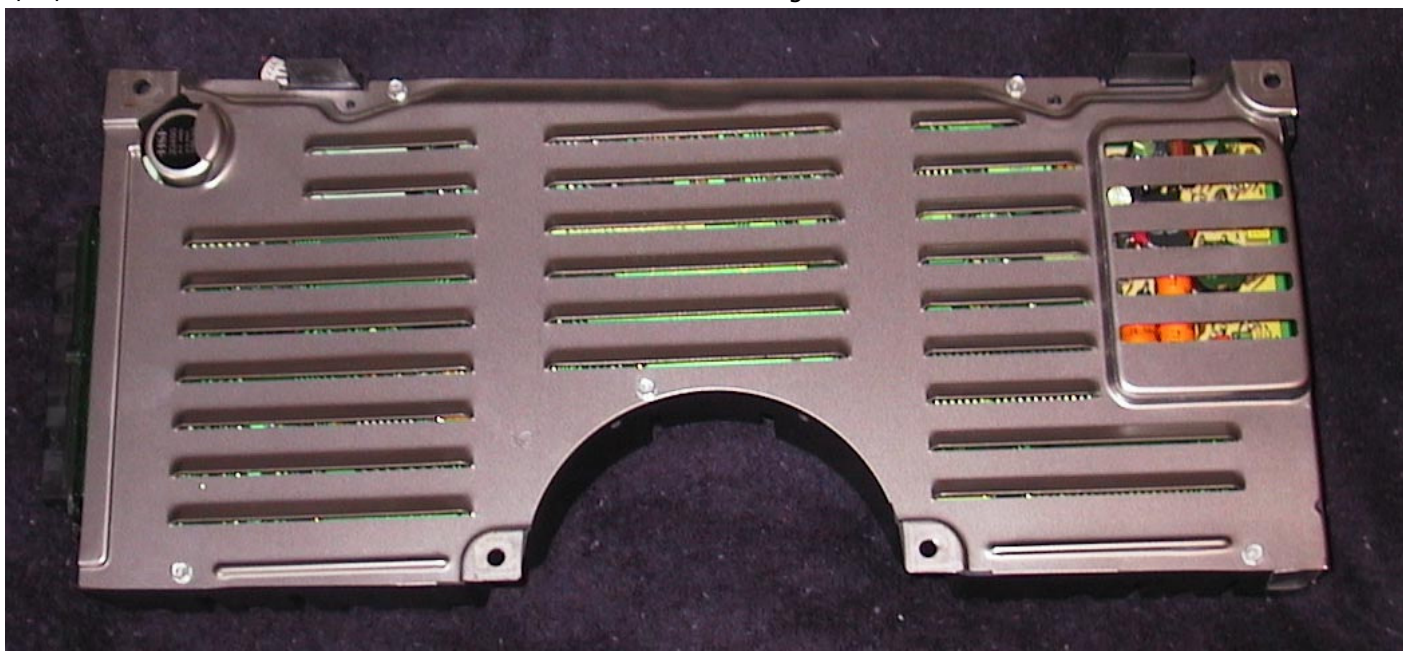

Figure 1 - Back of Digital Cluster
1. Place the Digital Cluster face down on a soft surface and remove the five 7/32" hex screws holding the metal panel to the rear of the panel. Remove the metal cover. See Fig 1.